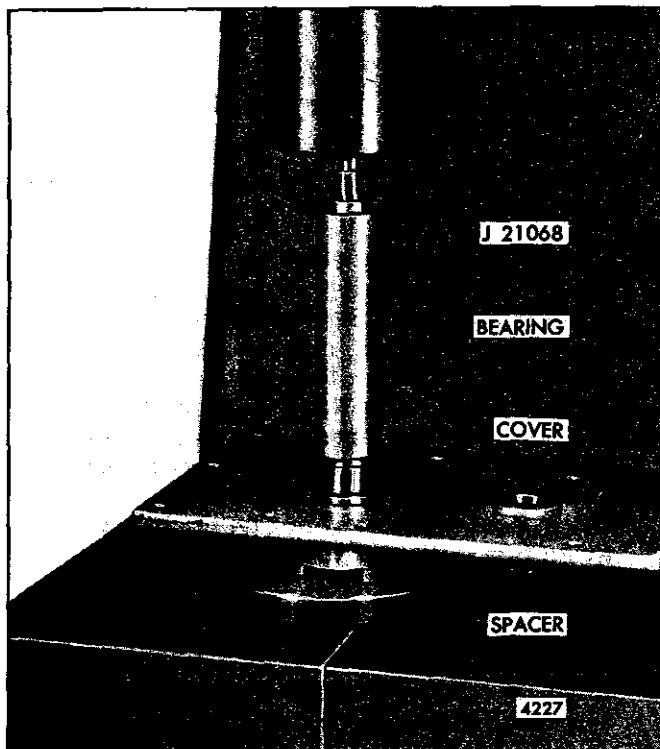

Fig. 10 – Installing Governor Cover Bearings
1. Place the cover, with the inner face down, on a spacer on the bed of an arbor press. Start a needle bearing straight into the bearing bore of the cover, with the number side of the bearing up. Then insert bearing installer J 21068 in the bearing and press the bearing in until the shoulder on the tool contacts the cover (Fig. 10).